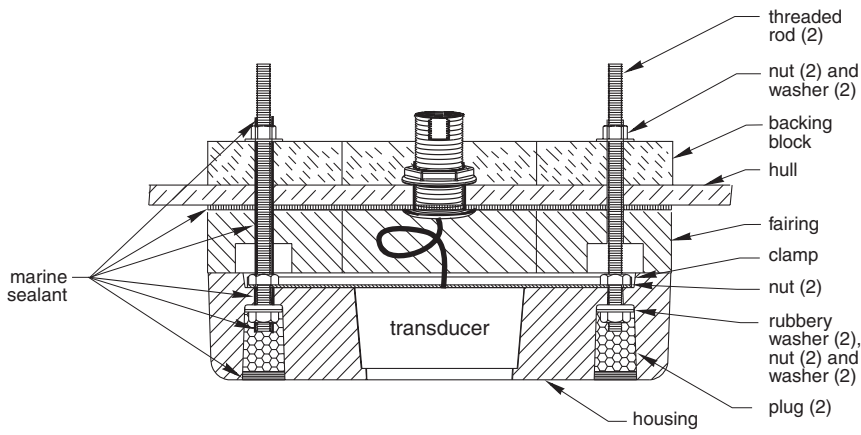

Figure 8. M172 installation in resin housing
6. Place the fairing against the hull, pushing the threaded rods through the hull. With a person stationed inside the vessel, position the backing block on the rods. Secure each rod with a stainless steel washer and nut (see Figure 8). Tighten the nuts with a torque wrench using a force not exceeding 7 N-m (5 ft.-lb.).
1. After the stuffing tube is installed following the instructions that came with it, apply a 2mm (1/16") thick layer of marine sealant to each threaded rod. Secure each rod with a nut. The rods should extend a minimum of 3 threads beyond the nut. Slide a stainless steel washer and rubbery washer onto each rod (see Figure 8).